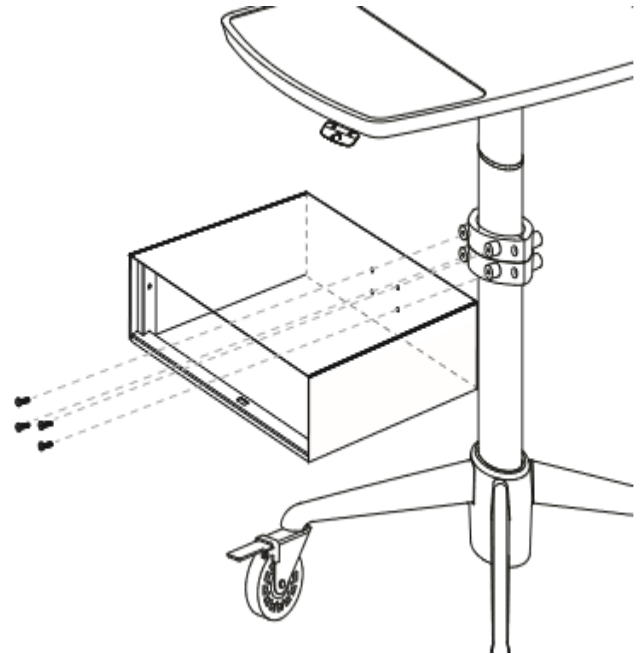

Figure 1. The accessory mounting brackets aligned on the column with the DS1
(2) Bins
(4) Bin Dividers
- 1 Measuring 2" down from the top of the column, attach (1) set of the accessory mounting brackets to the column using (2) 10-24 x 1" Phillips pan head screws. Directly below the first set of accessory mount brackets, attach the second set of accessory mounting brackets to the column (figure 1).
- 3 Once drawer is removed, proceed with installing the DS1 to the accessory mounting brackets. Align the 4 holes located inside the back wall of the DS1 with the 4 holes on the accessory mounting brackets. Insert and tighten the (4) 10-24 x 7/8" Phillips pan head screws into the accessory mounting brackets (figure 1).